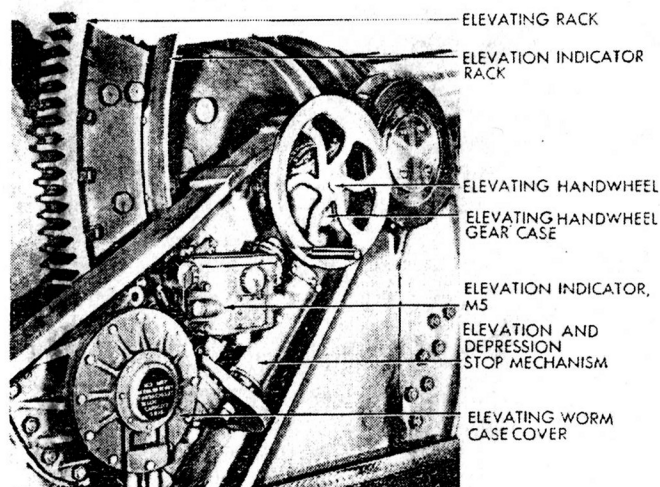

FIGURE 6.—Elevation and elevation indicator mechanisms.
■ 11. ELEVATION SETTER.—The elevation setter is charged with the duty of laying the piece in elevation. He is responsible to the gun commander for the proper operation, care, and adjustment of the elevation indicator and the elevating mechanism (fig. 6). For the detailed duties of the elevation setter, see the drill table, section IX.